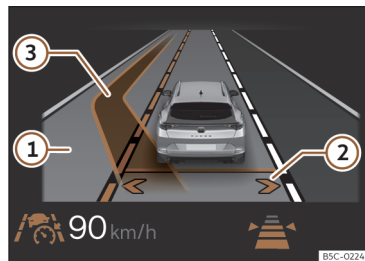

Fig. 151 On the instrument cluster display: lane change assist display (schematic representation).
This activates lane assist. The arrows of your own lane on the instrument cluster display are grey >>> **Fig. 151 ②**
If the system detects no objects in the detection field of the sensor system and an assisted lane change to an adjacent lane is possible, the corresponding lane is shown in the instrument cluster display next to the driver's own lane. The arrow on the corresponding side of the lane is displayed in white >>> **Fig. 151 ②**.